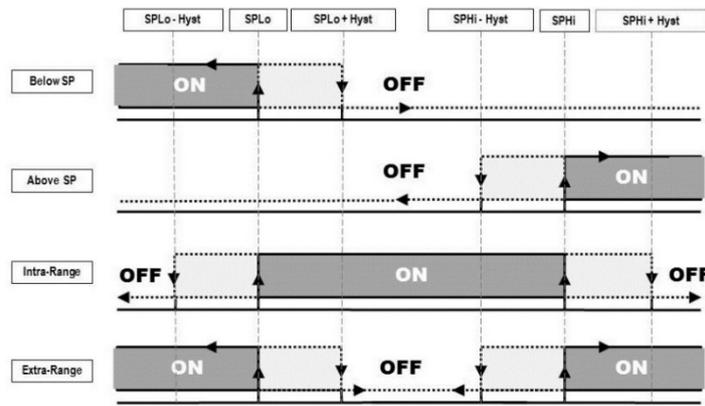

Figure 7 – Conditions of activation and deactivation of the different alarm modes
- **Hysteresis:** This parameter stores the pressure value that, with the values of the set points, determines the limit value to leave the alarm situation. **Figure 7** shows the conditions for alarm activation and deactivation.